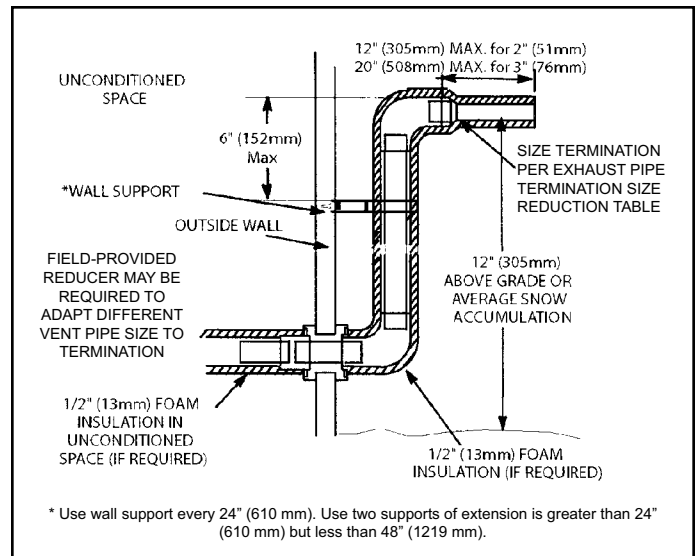

Figure 47. Non-Direct Vent Field Supplied Wall Termination Extended
3. If exhaust piping must be run up a sidewall to position above snow accumulation or other obstructions, piping must be supported every 24" (610 mm) as shown in Figure 47. When exhaust piping must be run up an outside wall, any reduction in exhaust pipe size must be done after the final elbow.